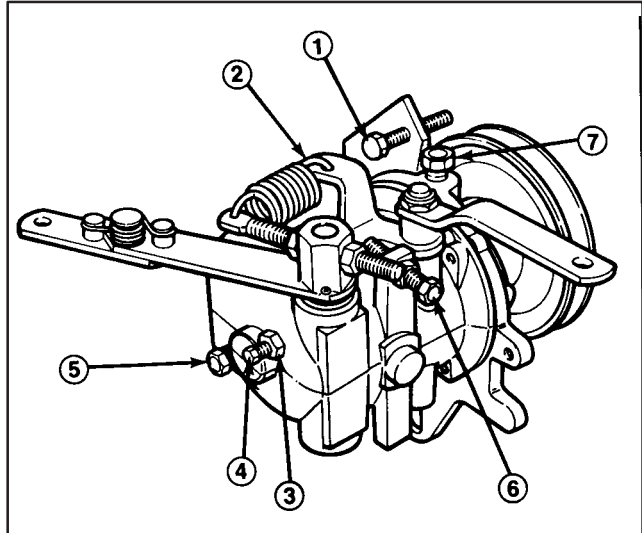

Figure 36
6. Slowly move throttle to FAST position until engine speed reaches 3200 ± 100 rpm. Shut off engine. Adjust high idle stop screw until it contacts speed control lever (Fig. 36).
8. Check V-belts from engine to governor pulley and assure they are tight. If belts are loose, the engine will surge. If belts are tensioned properly, loosen jam nut that retains the anti-surge screw (Fig. 36). Rotate screw clockwise 1/8 turn at a time until surging stops. Should governor continue to surge, check the following:
3. Clean area around check plug on governor (Fig. 36)